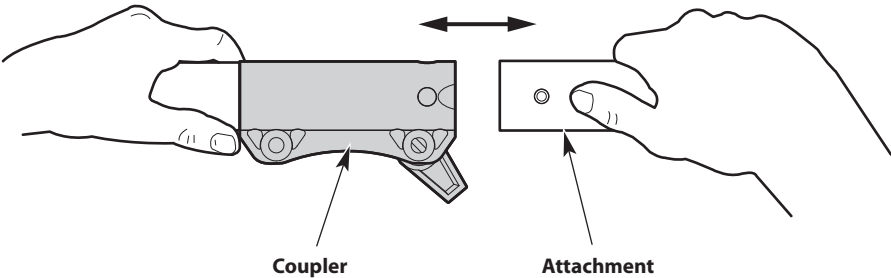
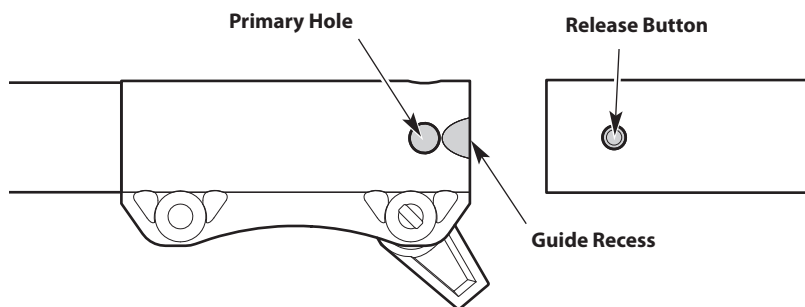

Fig. 6
Fig. 7
4. Align the release button with the guide recess (Fig. 7).
- 5. Push the attachment straight into the coupler (Fig. 6) until the release button snaps firmly into the primary hole (Fig. 7).
- 3. Press and hold the release button (Fig. 7).
- 4. Pull the attachment straight out of the coupler (Fig. 6).